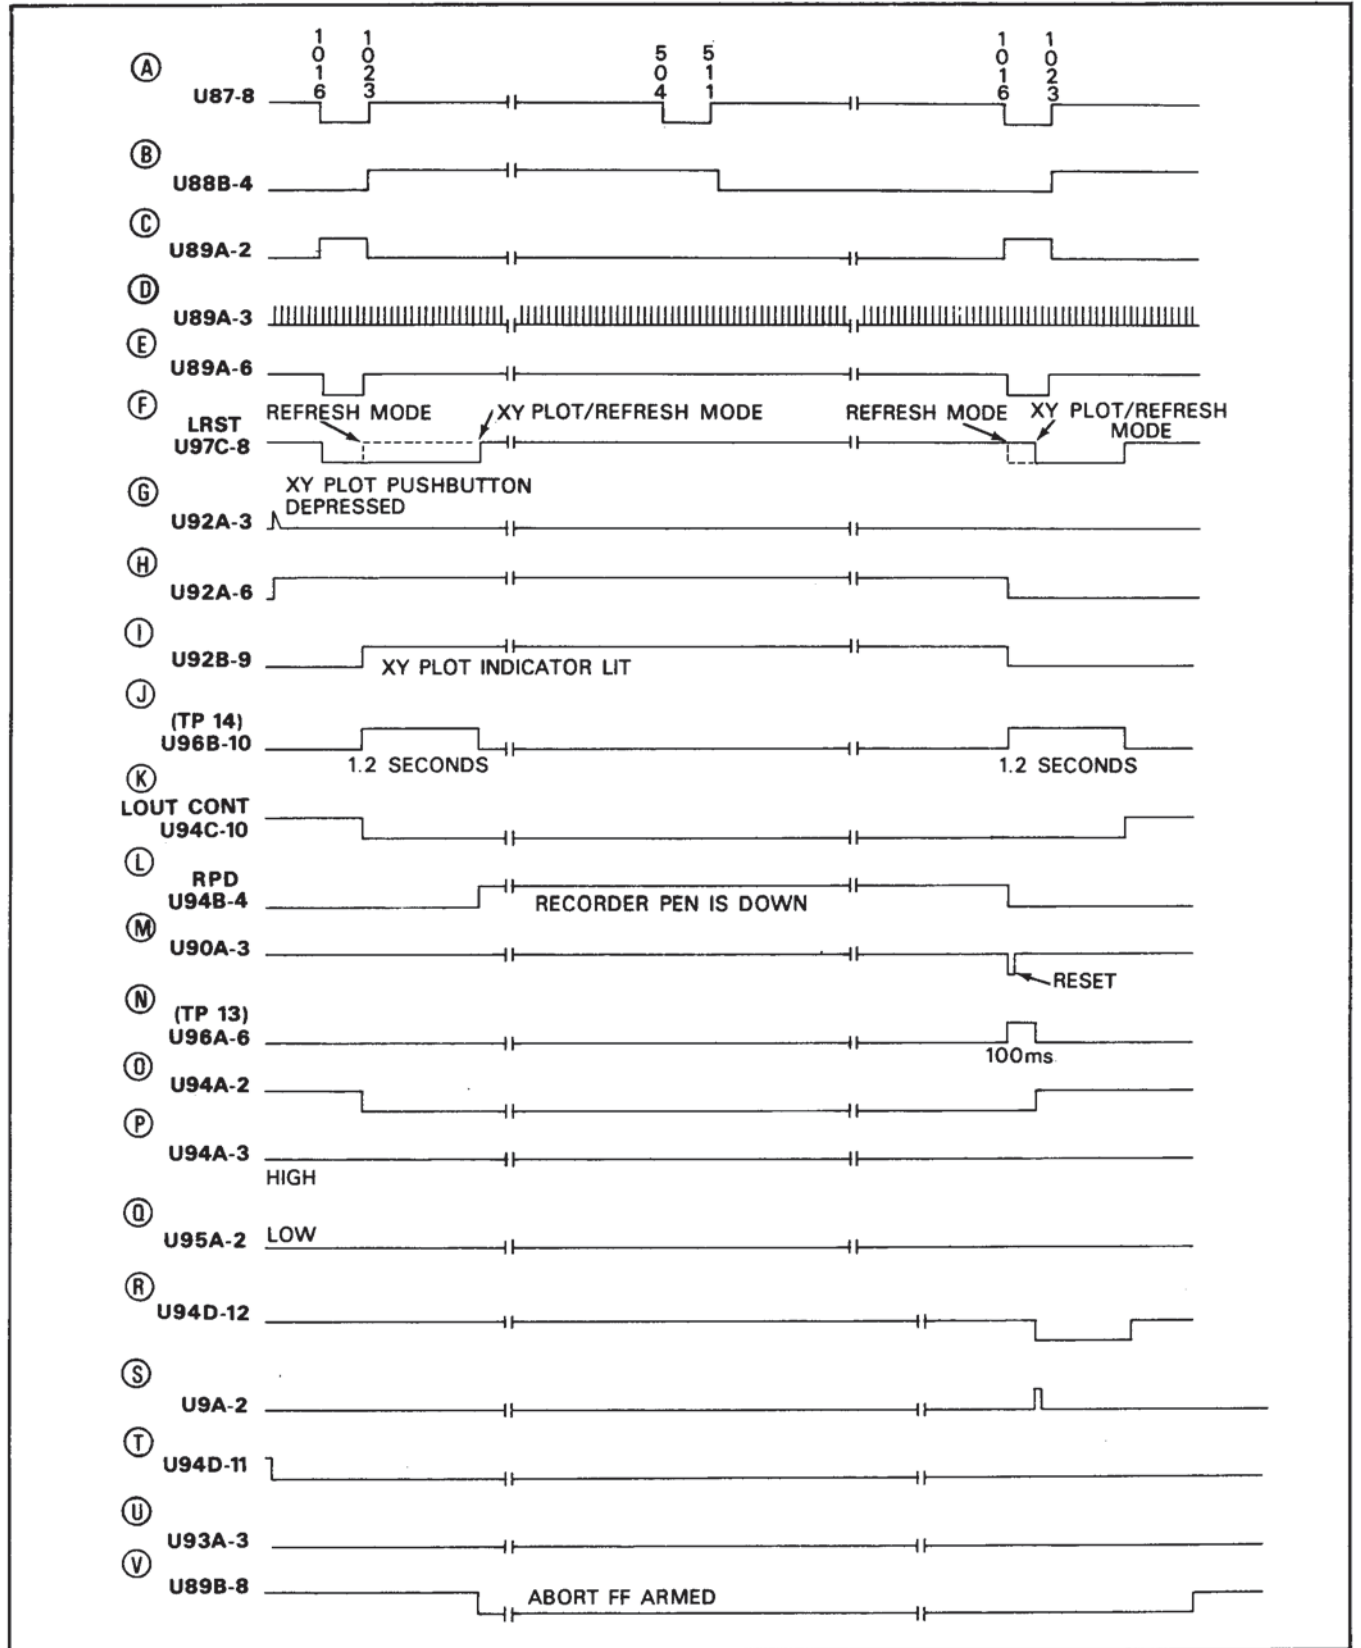
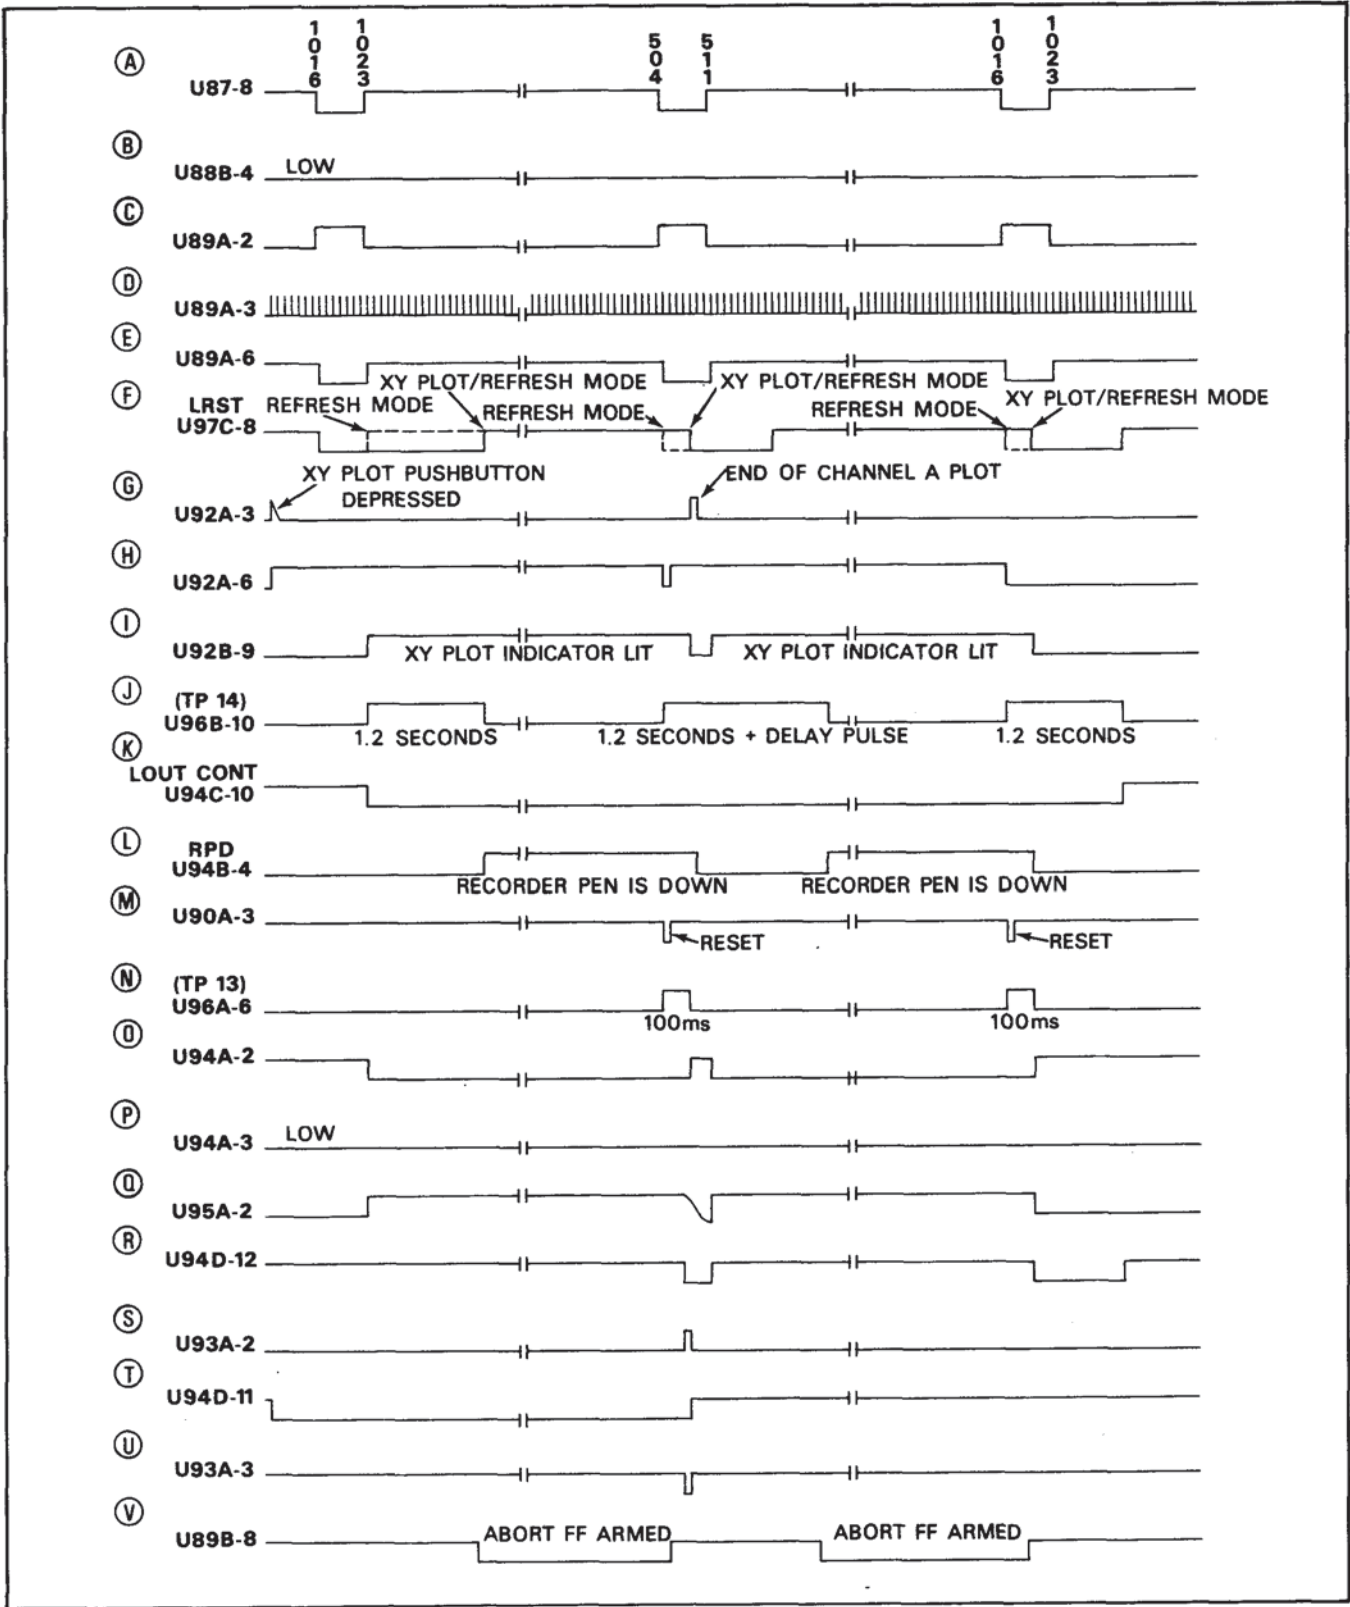

Figure 7-93. Refresh X-Y Plot Single-Channel Sweep Timing Diagram
Figure 7-94. Refresh X-Y Plot Dual-Channel Sweep Timing Diagram
The schematic diagram for this circuit is shown in Figure 7-89. Timing diagrams that show circuit-component output conditions during single and dual sweep operations are presented in Figure 7-93 and 7-94, respectively.
In the single-sweep timing diagram of Figure 7-93, the pulses shown at (A) result from ANDing the HOC 1 thru HOC 6 output count lines from the output counter. These six lines are only high simultaneously during counts of 504-511 and 1016-1023 (see Figure 7-91).
The dual-sweep timing diagram of Figure 7-94 is similar to the single-sweep timing diagram (Figure 7-93) except that two plots and two reset pulses are generated instead of one. The difference for the dual-plot timing diagram is the pulses shown at (C) thru (U). These pulses are used with flip-flop U95A and its associated gates and components to (1) generate a pulse that will initiate a new plot at the end of the Channel A plot, and (2) inhibit the generation of a plot-initiating pulse at the end of the Channel B plot.
In Figure 7-94, the pulse shown at (C), which is the LPLOT pulse, is LOW during plot.